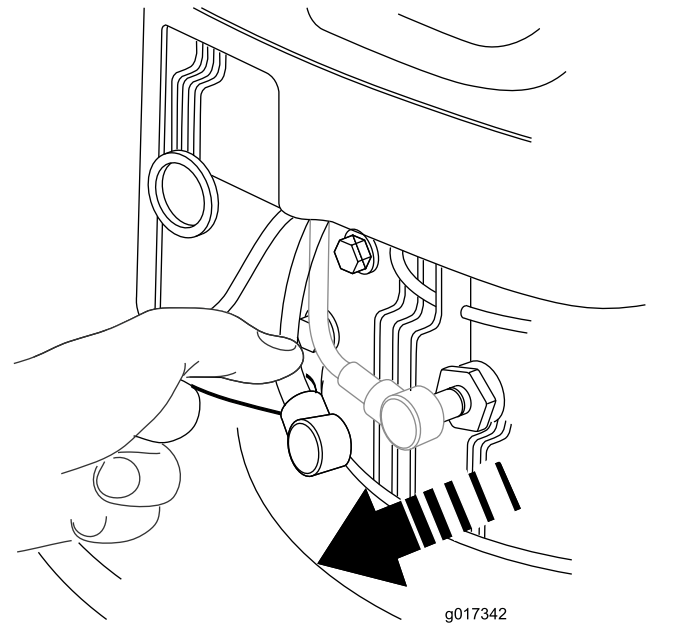

Figure 19
- Disconnect the spark-plug wire from the spark plug (Figure 19) before performing any maintenance procedure.